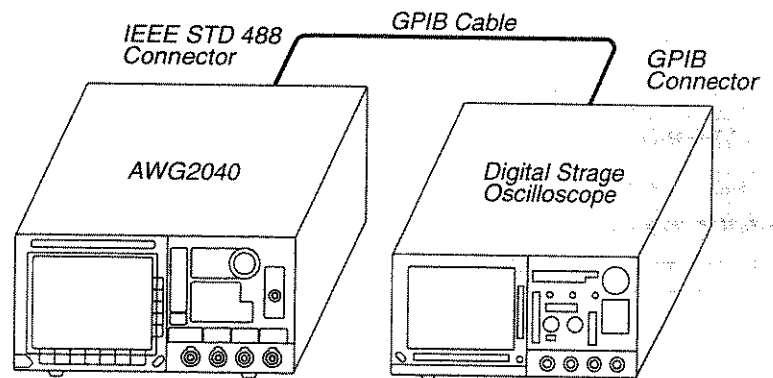

Figure 4D-6: Connecting Instruments
- Step 1:** Using a GPIB cable, connect this instrument to the instrument from which waveform data is to be transferred, as shown in Figure 4D-6.